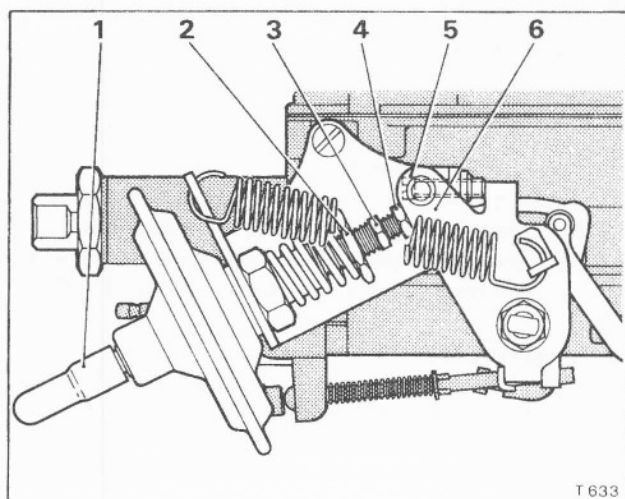

Fig. K69 Throttle jack/damper
4. Disconnect the vacuum signal hose from the throttle jack/damper (see Fig. K69) and suitably blank the hose; the engine speed will increase.
5. Slacken the lock-nut (see Fig. K69, item 3) on the throttle jack/damper and adjust the bolt (item 4) to obtain the engine speed quoted in Figure K66.